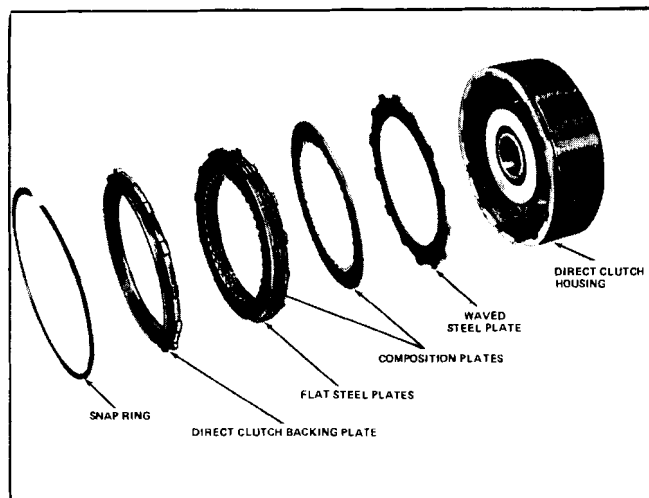

Fig. 7E-126 Exploded View of Direct Clutch Pack
1. Remove intermediate clutch retainer snap ring and retainer (Fig. 7E-124).
3. Turn unit over and remove backing plate-to-direct clutch housing snap ring (Fig. 7E-125).